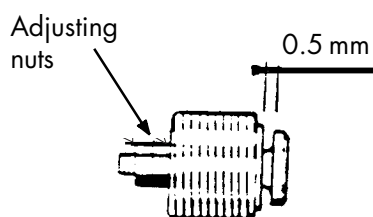

Fig. 16
- Check that the clearance is 0.5 mm. If necessary, adjust the nuts to obtain this clearance (Fig. 16).